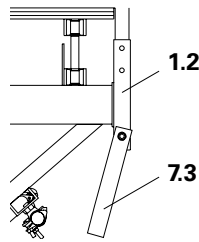

Fig. B1.36
1. Fix Tension Anchor Connector CB (7.3) with designated Bolt M16 x 100, SW 24, to vertical tube of the bracket (1.2). (Fig. B1.36)